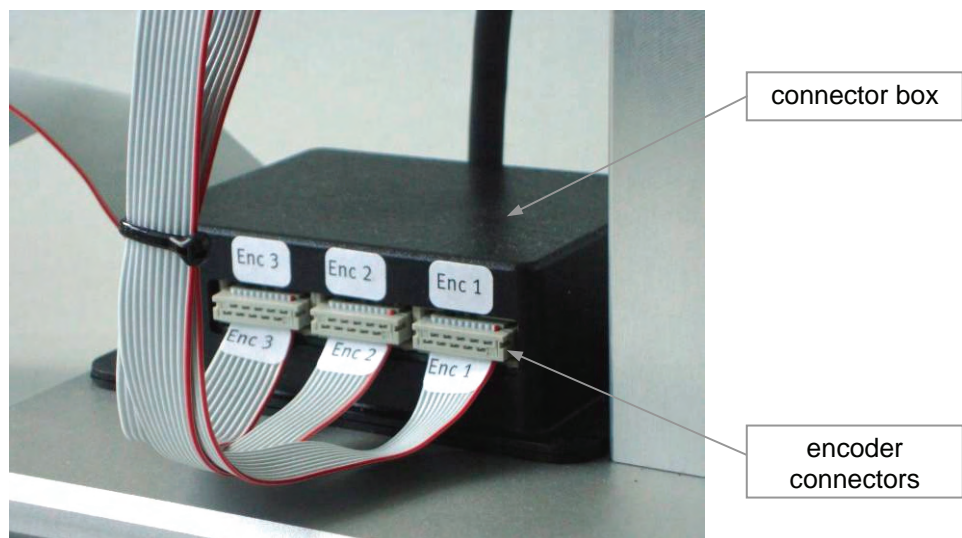

figure 2 – mounting the encoder and reset cables
2. connect each encoder connector to the black connector box (figure 2), paying attention to the index number.